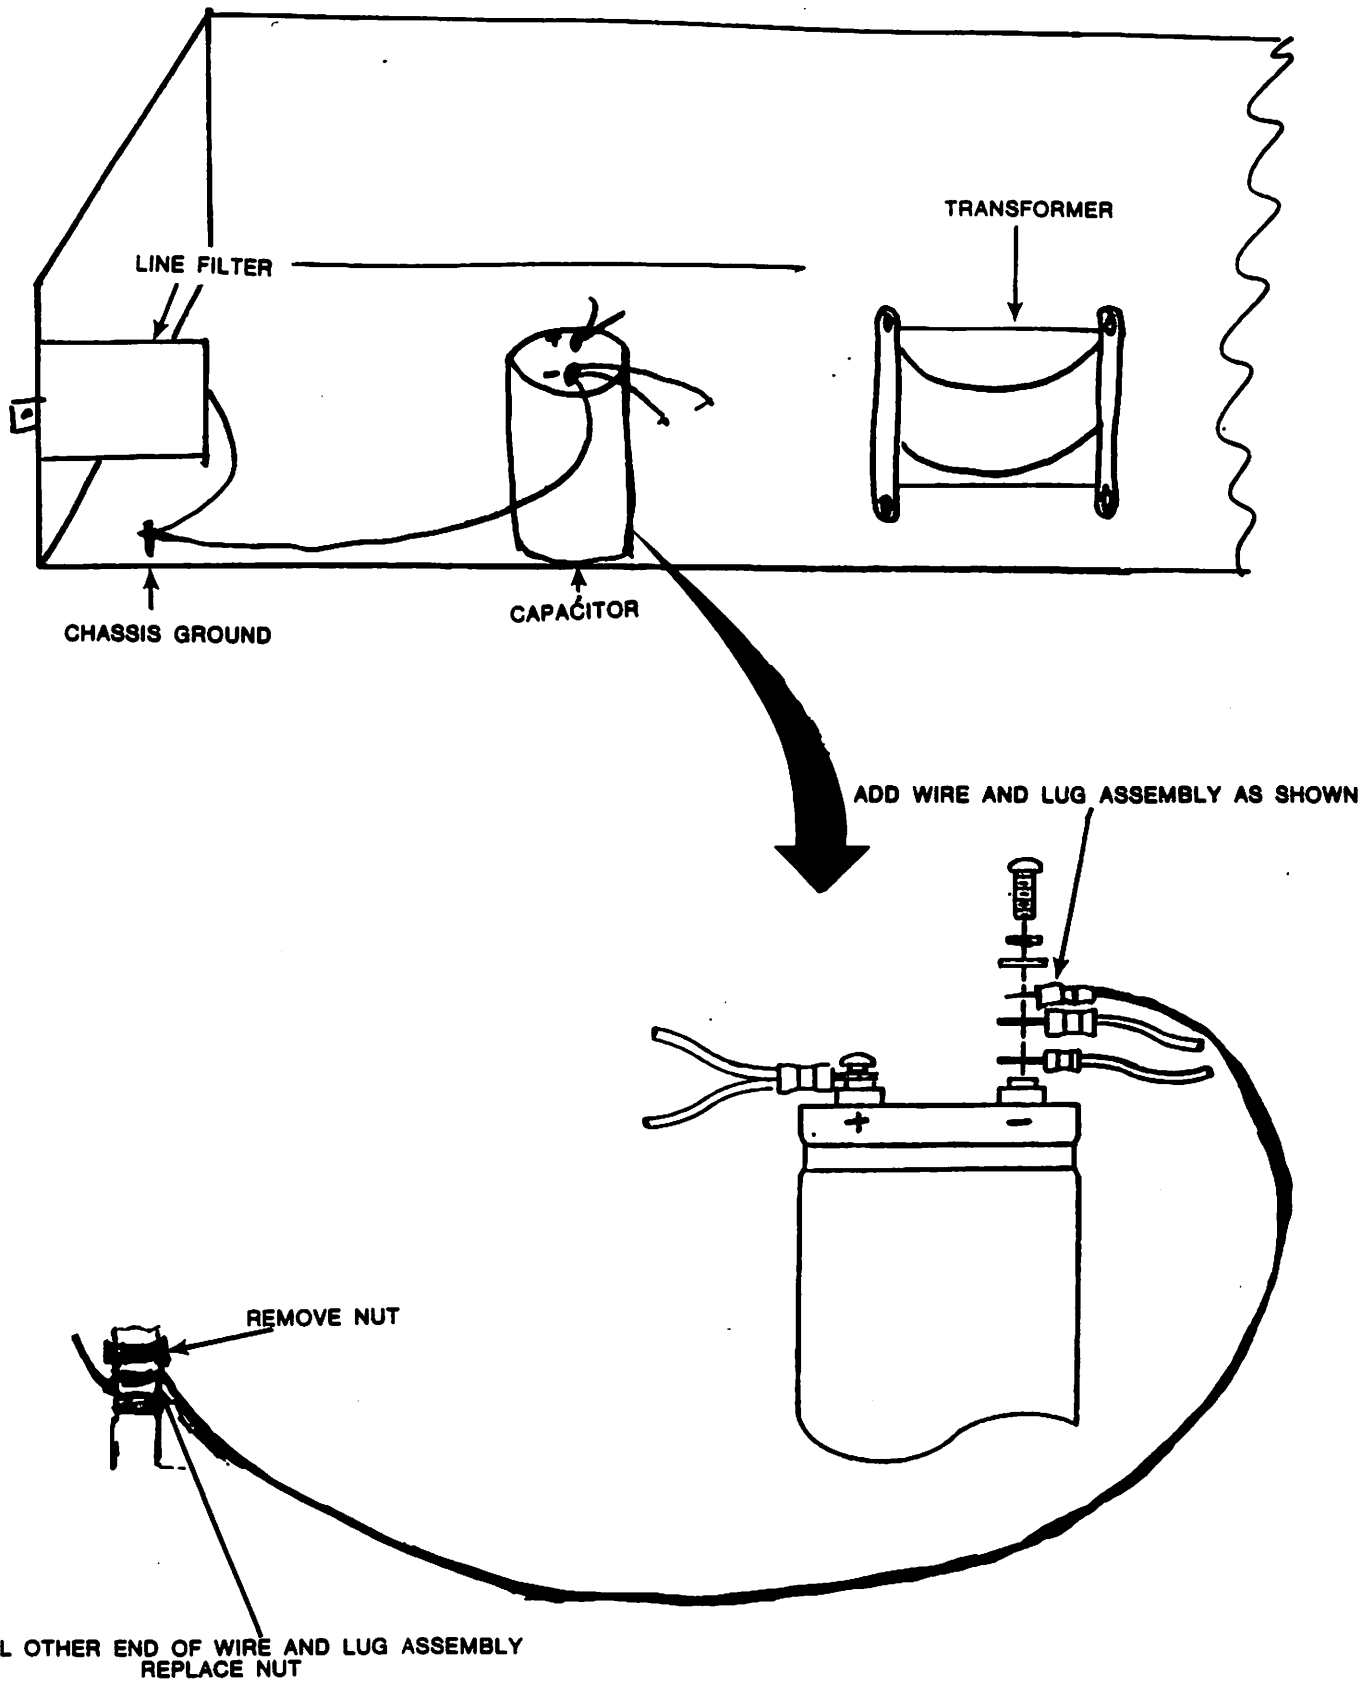

FIGURE 1: TAPE DRIVE, SIDE VIEW
- C. Add the wire and lug assembly between the capacitor and chassis ground as follows: (Figure 1)